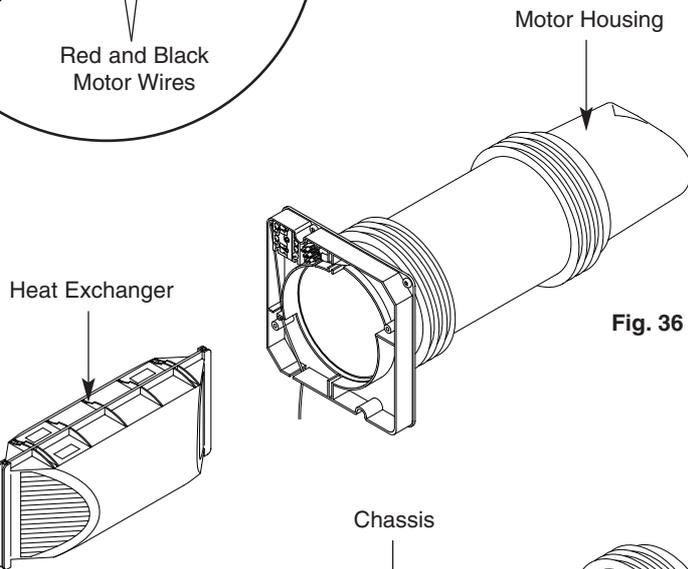

Fig. 36
2. Carefully withdraw the heat exchanger from the unit (Fig. 36).